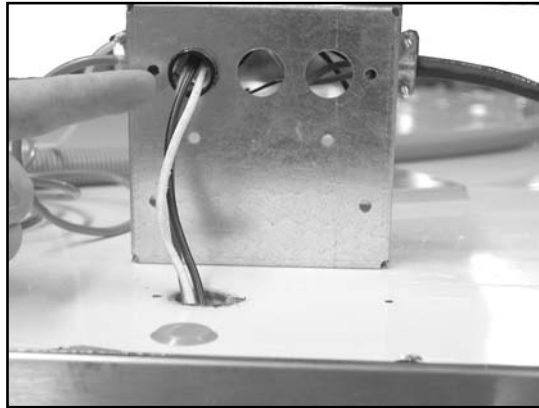

Figure 1
1. Run Wires from the Interior Light Assembly through the Bottom Hole of Relay Box Assembly before mounting. See **Figure 1**.